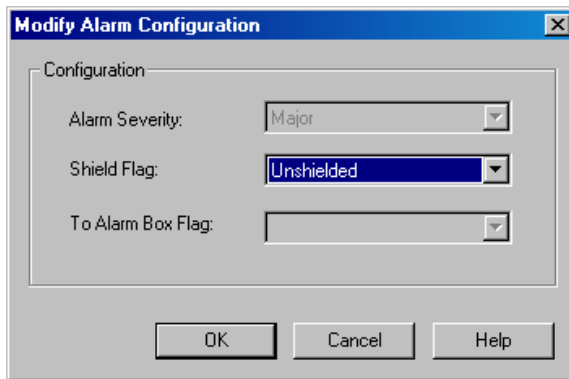

Figure 5-13 Modify Alarm Configuration dialog box
- 4) Select an alarm record to be modified in the window. You can select one record only each time. Then click **Modify** to display the **Modify Alarm Configuration** dialog box as shown in Figure 5-13.